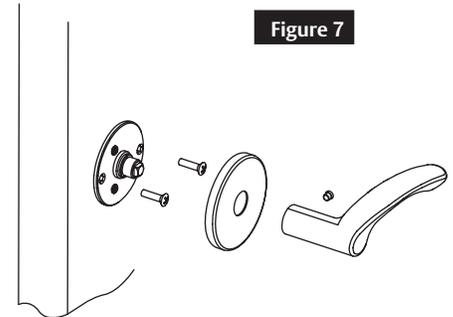

Figure 7
1. Install inside mounting plate assembly using (2) #8-32 x 3/4" screws. Note location for set screw.
3. Install lever onto spindle. Insert set screw into hole in lever and tighten. See Figure 7.